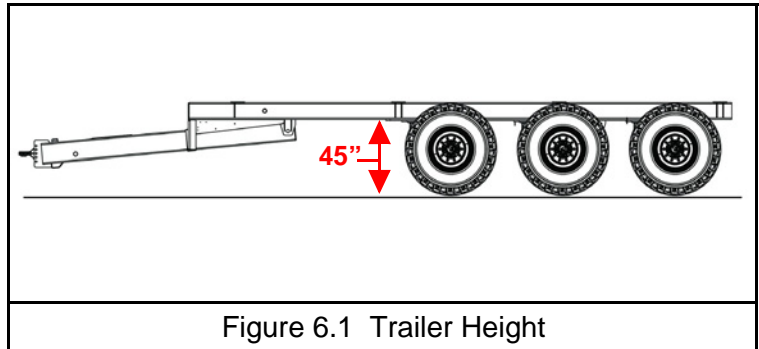

Figure 6.1 Trailer Height
5. Have someone with a tape measure assist you in achieving a ride height of 45" from the ground to the trailer frame ahead of the lead trailer axle as shown in Figure 6.1 Trailer Height.